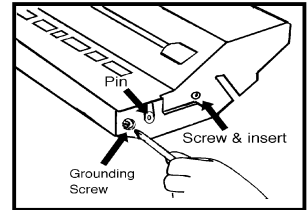

Figure 1
- Remove the pin, Phillips head screw, and its insert on the left side of the cartridge (Fig. 1).
- Remove the pin, the small grounding screw and the larger screw with its insert, on the right side of the cartridge (Fig. 1).